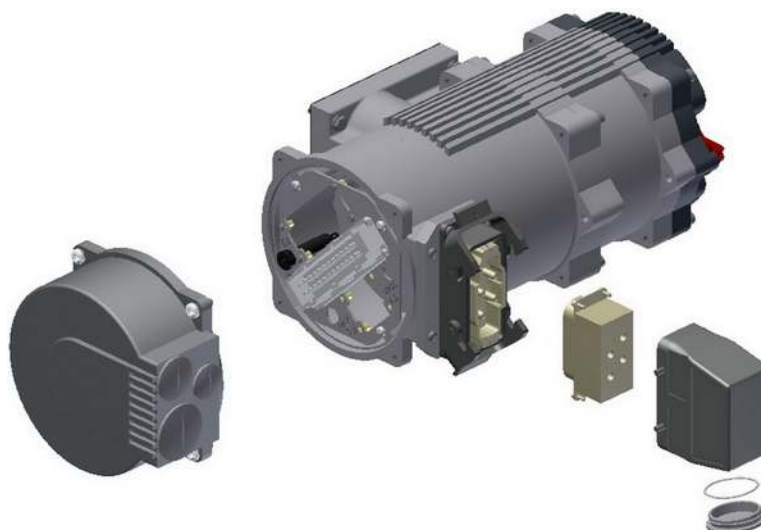

Figure 13: size 2 with the additional plug
- size 2: connection of the control signals is the same as size 1, the connection of the power supply is made by an additional plug (see Figure 13), both plugs aer with screw connection.